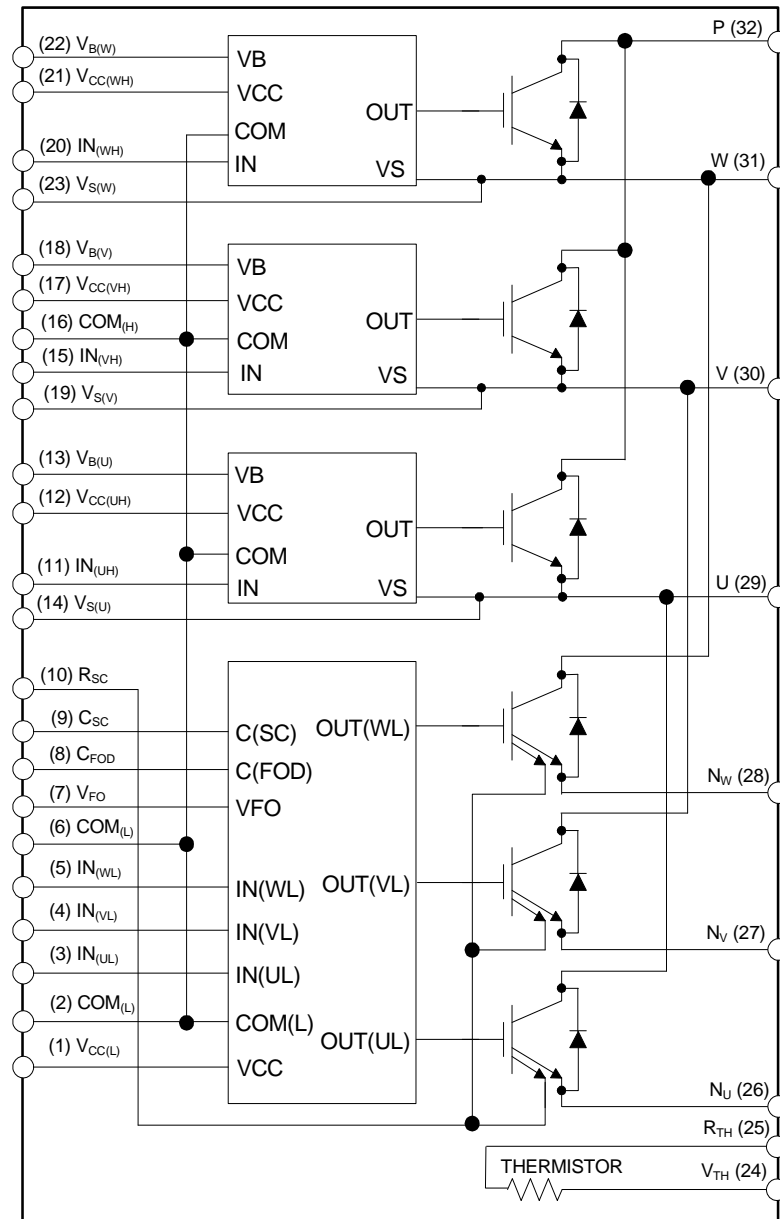

Figure 3. Internal Block Diagram
- 600V - 10 A IGBT inverter for three-phase DC / AC power conversion (please refer to Figure 3)